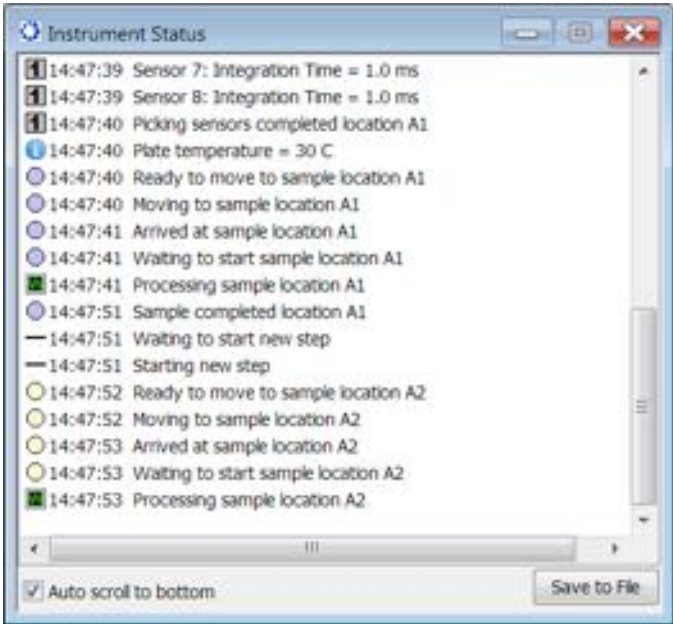

Figure 7-69: Instrument Status Log
4. Optional: Click **View > Instrument Status** to view the log file (see Figure 7-69).